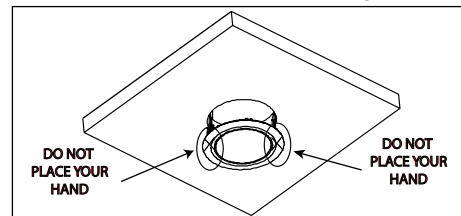

Figure 7 / Figura 7 / Schéma 7
- DO NOT PLACE YOUR HAND UNDERNEATH SPRING CLIP DURING REMOVAL PROCESS. SNAPPING OF THE CLIPS CAN CAUSE INJURIES TO THE HAND. (Figure 7)